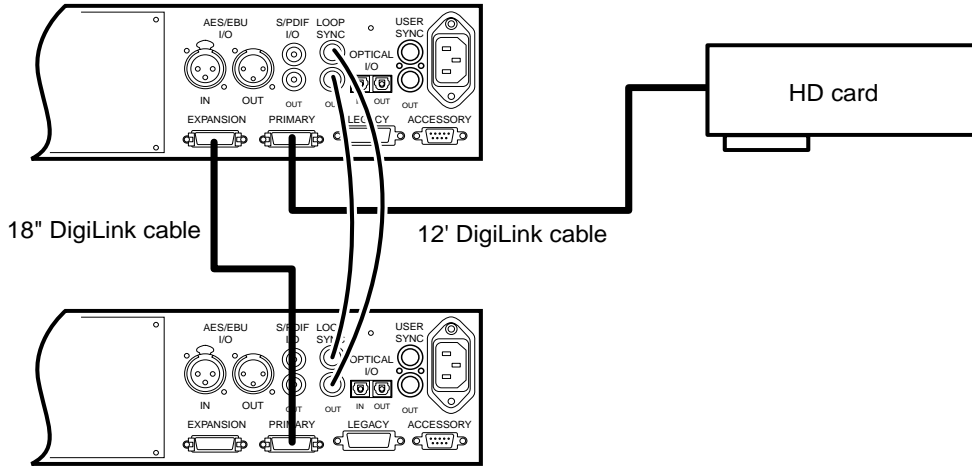

Figure 5. Two 96 I/Os, 32-channel
- 2 Connect a secondary HD-series audio interface to the Expansion port on the primary audio interface using the 18" DigiLink cable (included with the audio interface). See Figure 5 below.